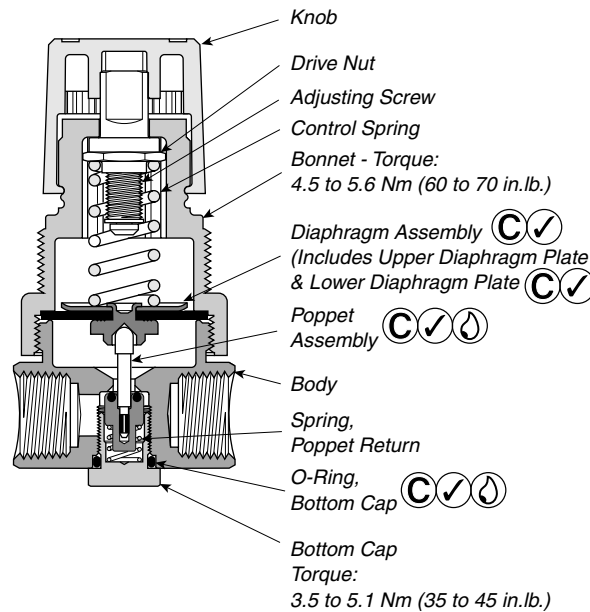

Figure 1
3. Install diaphragm assembly into body. Then install bonnet assembly to body. See Figure 1 for torque value.
4. Lubricate cap’s o-ring and install it in o-ring groove on cap. Then screw cap into body until the cap bottoms out in body. See Figure 1 for torque value.